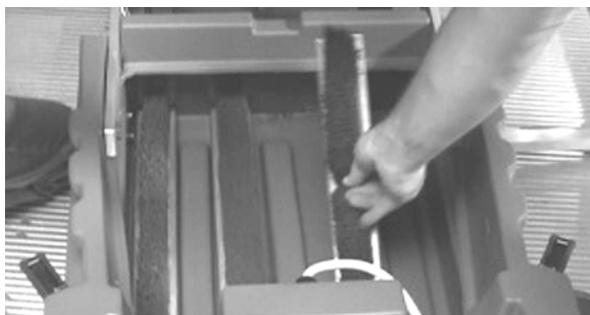

Fig. 1
2. Be certain the escalator is off. Release the two handle latches and lower the handle. Remove the set of brushes to be used for storage (Figure 1). The thicker bristle brushes are for restorative cleaning and should only be used on bare aluminum not powder coated treads. The thinner blue bristle brush set is for routine cleaning of all treads.